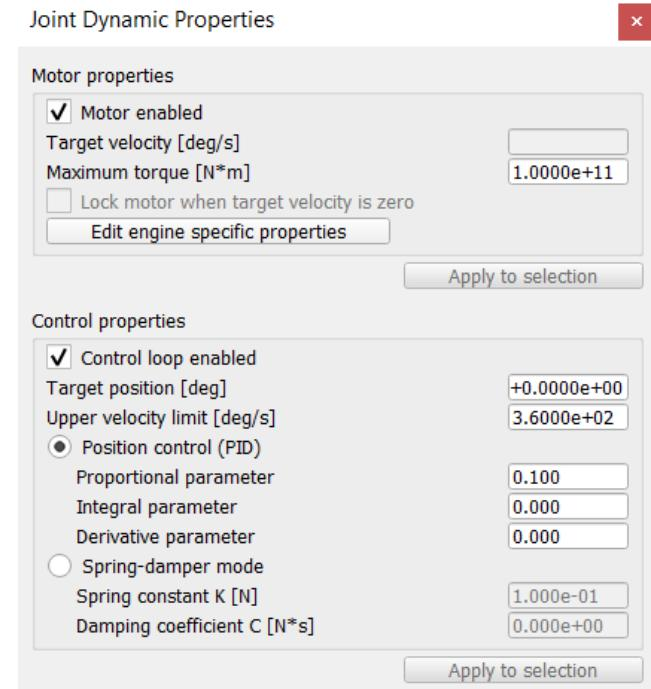

Figure 5: Properties of Motor enabled and Control loop enabled option in Joint Dynamic Properties dialog box for the required revolute joints.
- Make sure that the parameters in **Joint Dynamic Properties** dialog box are as shown in Figure 5.